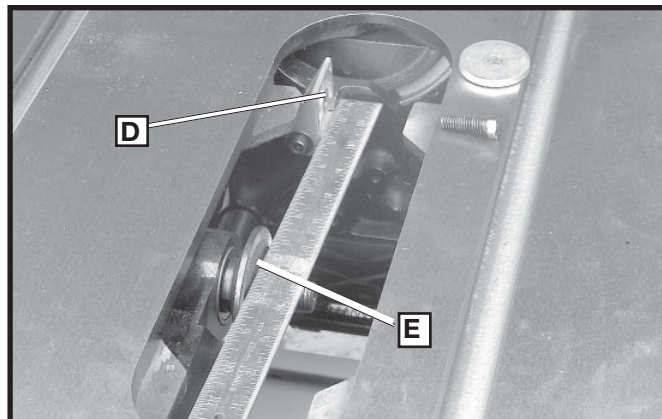

Fig. 45
4. Using a straight edge, check to see if the top and bottom of the inside splitter bracket (D) Fig. 45 is aligned with the inner arbor flange (E), as shown.